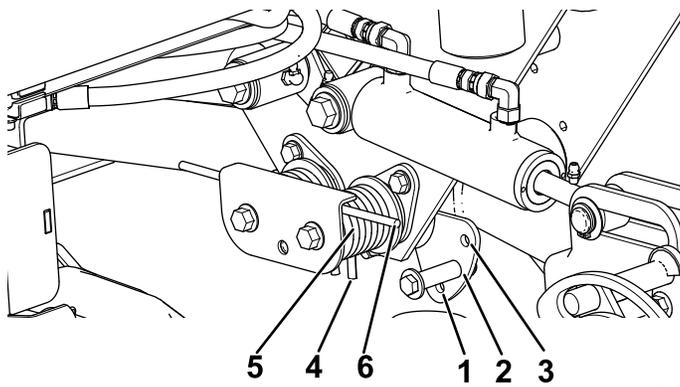

Figure 45
To change to the down pressure configuration, the catch plate must be removed in order to switch the two springs from one side and the short leg of spring must now ride up against the top lip of the catch assembly (Figure 45).
2. Insert a tube or similar object onto the long spring end to relieve the spring tension during the adjustment (Figure 45).
3. While relieving the spring tension, remove the bolt and locknut securing the spring actuator to the bracket (Figure 45)